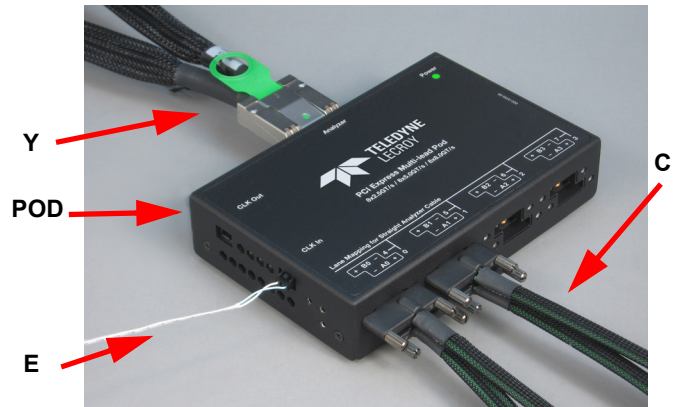

Figure 1. Teledyne LeCroy Gen3 Multi-lead Probe and Components
The Teledyne LeCroy Gen3 Multi-lead Probe™ is designed to tap and test inter-chip signaling on a PCI Express board. Figure 1 shows the complete assembly of the Gen3 Multi-lead Probe and its components.
A Gen3 Multi-lead Probe has a Gen3 Multi-lead POD (POD in Figure 1), High Bandwidth coax cables (C), and a Differential Flex Tip Assembly for easy connection (for photo, see Section 2, Components).
Figure 1 also shows a Y cable (Y), which connects to a Summit T3 Analyzer. The External Clock Cable (E) is needed only when the serial data is clocked with spread spectrum.
One Multi-lead POD is required for link widths of up to x4. x8 link width requires two PODs. x16 link width requires four PODs. Figure 1 shows an x2 connection. See section 7, Cable Configuration for analyzer cable configurations and lane mapping.
- Gen3 Multi-lead POD (POD in Figure 1)
- High Bandwidth Coax Cable Assembly (C in Figure 1)